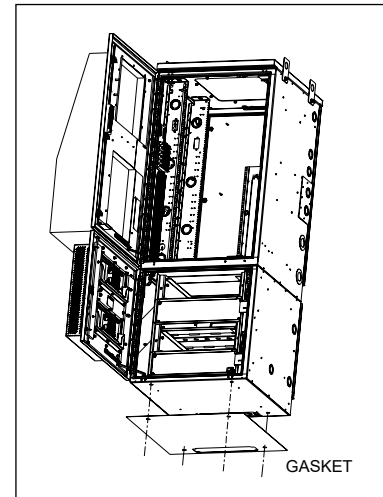

Figure 8 Gasket Installation
3. If the gasket is not fastened to the bottom of the CUBE, then install the gasket by positioning it on the pad so that it is underneath the bottom of the CUBE when the cabinet is installed. Line up the gasket so that the cutouts are in proper position around the conduit opening and the bolt holes as shown in Figure 8.